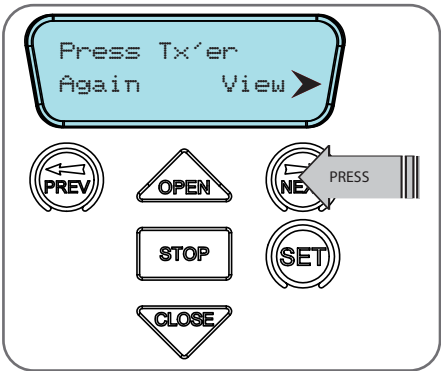

Fig G.3
- d. Press NEXT to view the transmitter parameters (**Fig. G.3**). This method is used for quick navigation if the transmitter is available.